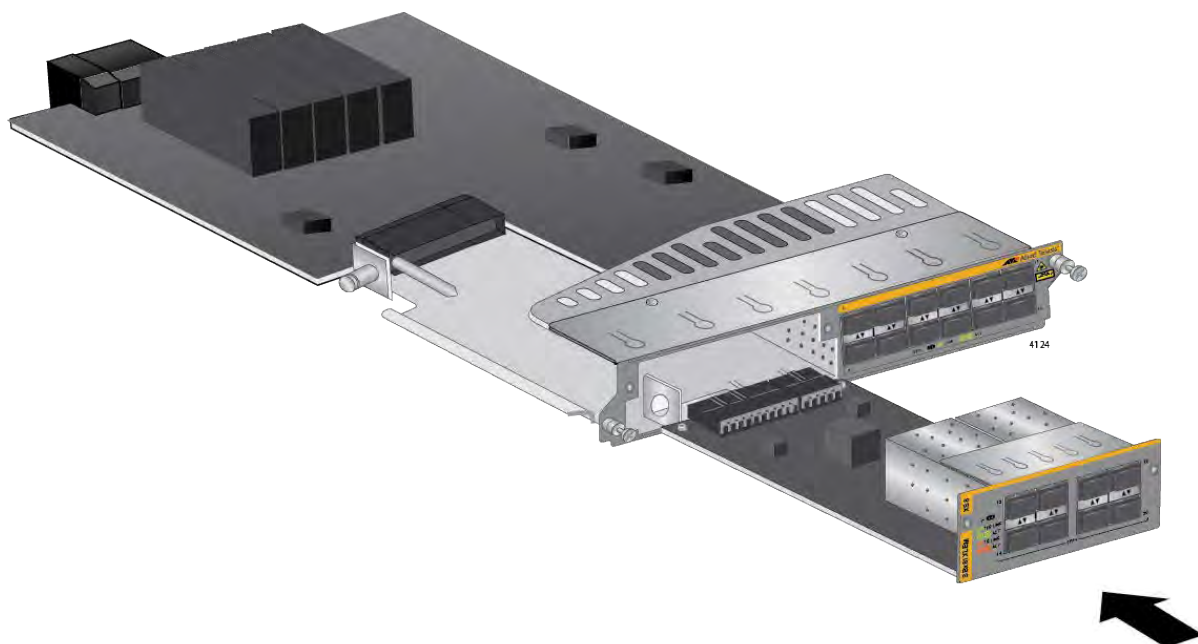

Figure 86. Sliding the Expansion Module into the AT-SBx81XLEM Line Card
8. Carefully align the expansion module in the slot, as shown in Figure 86, and slide it into the line card.